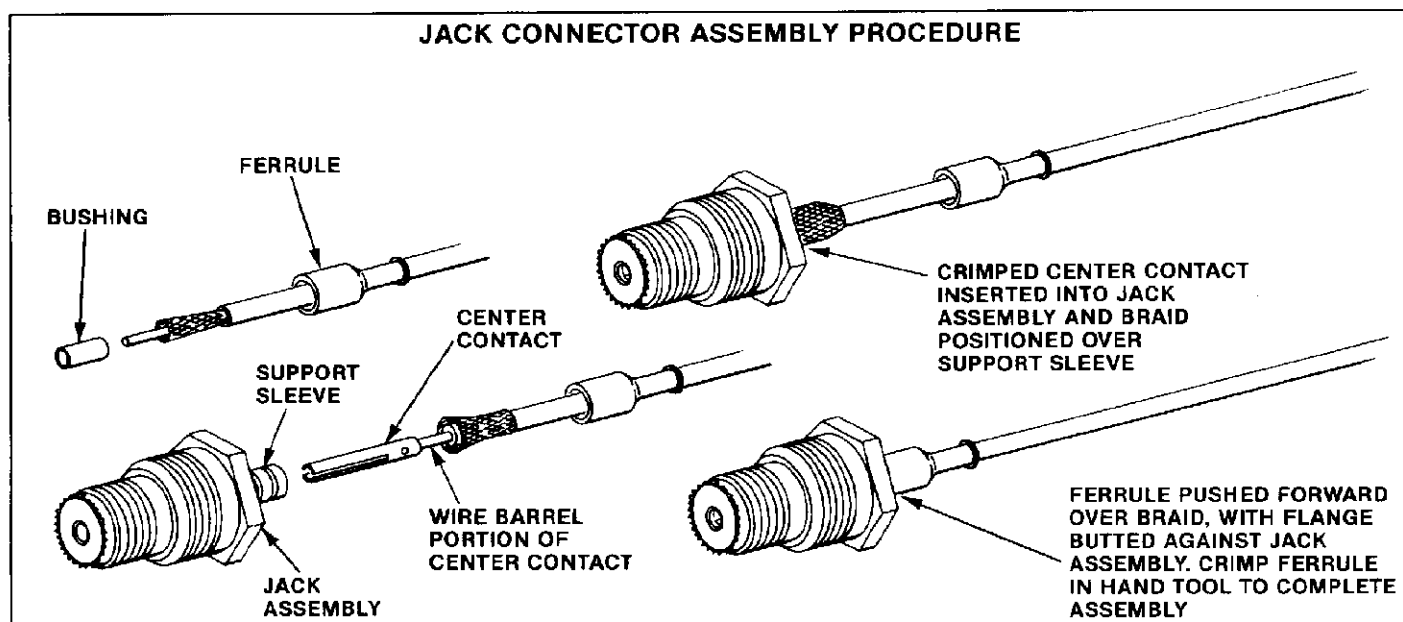

Fig. 3
2. If applicable, slide bushing onto cable dielectric as shown in Figure 3.
4. Insert crimped center contact into bulkhead jack assembly with braid over support sleeve of jack assembly. See Figure 3.